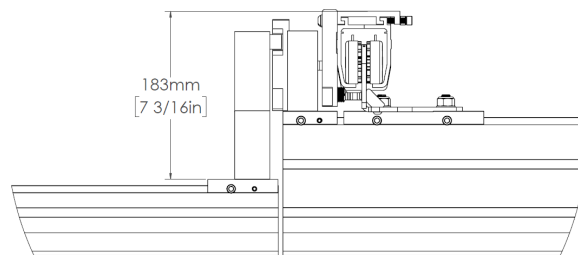

Figure 79: **Track Plus System Bracket Height Difference—7 3/16"**
- For TrackPlus systems, the difference in bracket height is 7 3/16" (Figure 79)